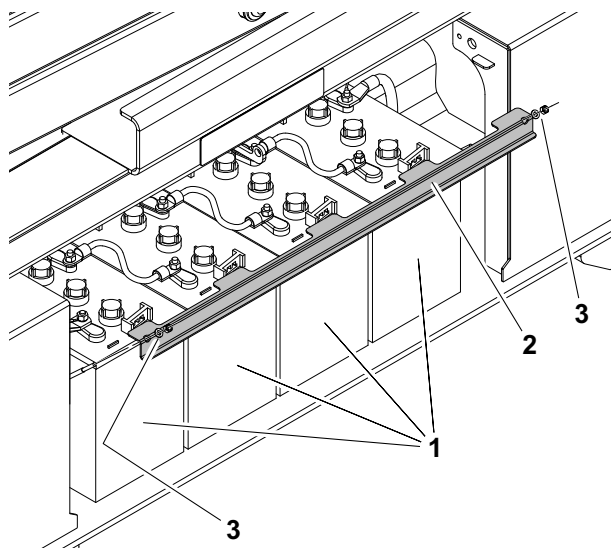

Figure 3-2. Battery Location and Hold Down Bar
3. To remove one or more batteries from the machine, the battery hold down bar will need to be removed. (See Figure 3-2.)
4. Remove the (2) nuts and washers from each hold-down anchor at the ends of the hold-down bar. Remove the bar and lay aside.